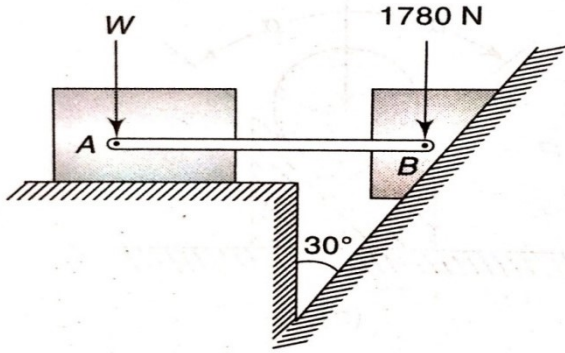

Figure 2.15
16. Two blocks connected by a link AB are supported on two rough planes as shown in Figure 2.15. The coefficient of friction for block A on the horizontal plane is $\mu = 0.4$. The angle of friction for block A on the plane is $\phi = 15^\circ$. What is the smallest weight W of block A for which equilibrium of the system can exist?